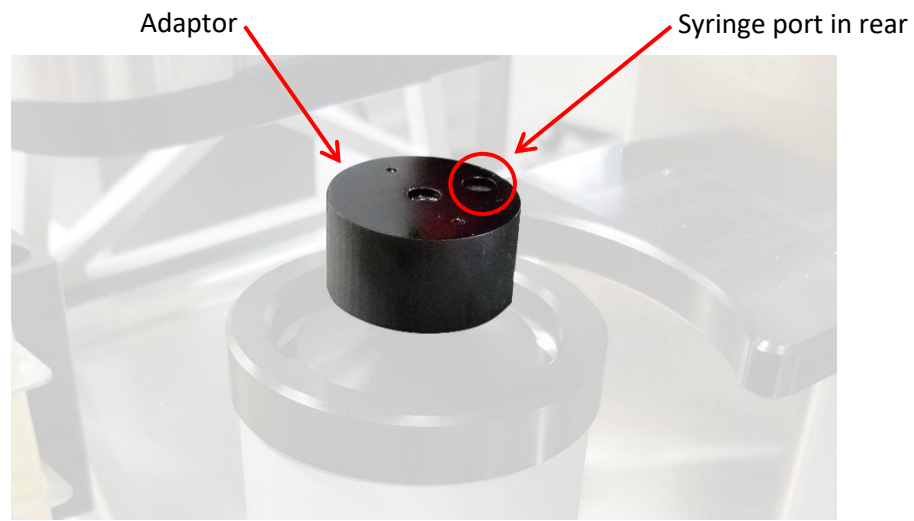

Figure 17: Adaptor Placement
- Next, place the adaptor on top of the viscometer cell assembly, with the syringe port to the rear. See Figure 17.